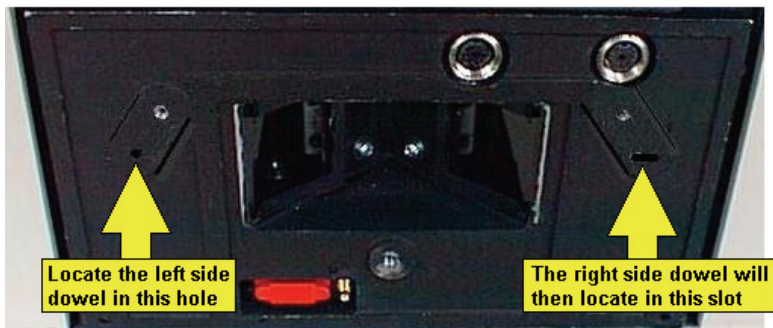

Figure 59 Locating dowels
6. Fix the plate reader body to the LS 55 by aligning the steel dowels, as shown in Figure 59.